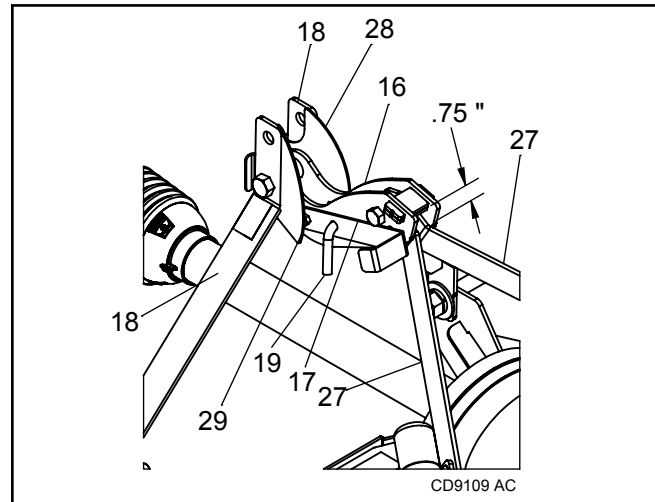

Figure 6. Driveline Holder Storage Position
7. Lengthen the tractor top link until mower break link cross piece is $3/4$ " above the rear offset links. See Figure 6. The front tires of the mower will lift off the ground before the rear tires when the unit is raised. This will allow the mower to follow the ground contour when mowing).
3. Install quick hitch sleeves (item 53) over mower cantilever hitch pins and retain with klik pins.
4. If the mower driveline is already installed on the mower, it should be placed on the driveline holder. The bent pin (item 32) should be removed from the holder, releasing it to swing down and support the drive.
5. The mower a-frame links (item 48) should be locked in a vertical orientation. Push the a-frame links rearward until the small holes in the top of the rear offset links (item 24) align to the cross-hole in the break link (item 28). Install the driveline holder bent pin (item 32) through these holes to hold this position and retain with hairpin cotter.
11. Remove the bent pin (item 32) and cotter from the break link (item 28). Swing driveline holder up into storage position. Install bent pin through holder and break link. Retain with hairpin cotter.
12. Adjust tractor top link until mower break link cross piece is 3/4" above the rear offset links. See Figure 6. The front tires of the mower will lift off the ground before the rear tires when the unit is raised. This will allow the mower to follow the ground contour when mowing.